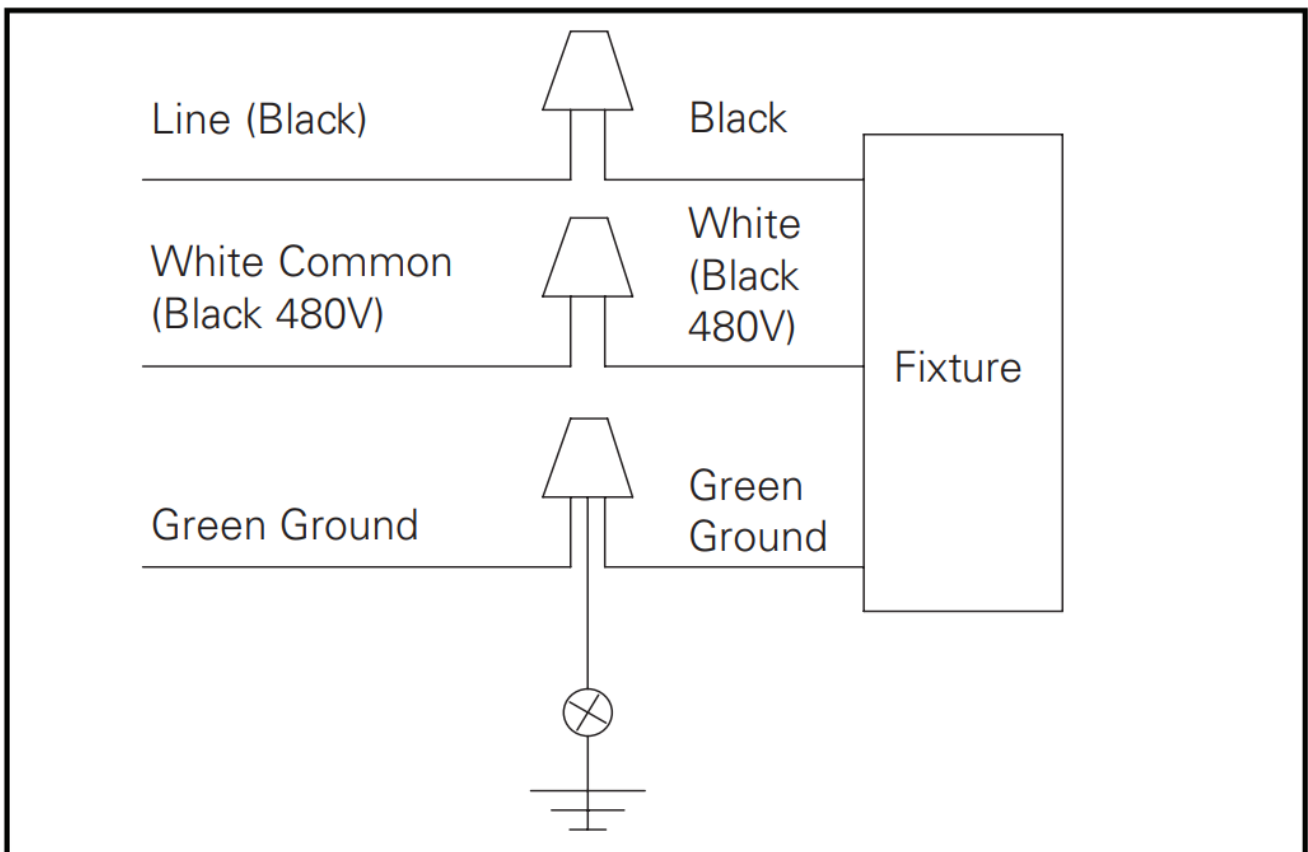

Figure 4.
4. Make wire connections inside the mounting arm. Refer to wire diagram for power connections. Connect the supply wires to appropriate luminaire leads: (Figure 4.)
7. Make wire connections inside the fixture. Refer to wire diagram for power connections. Connect the supply wires to appropriate luminaire leads: (Figure 4.)
- Tighten the (4) fixture door screws to 20 in-lbs. (or tighten door thumb screws).